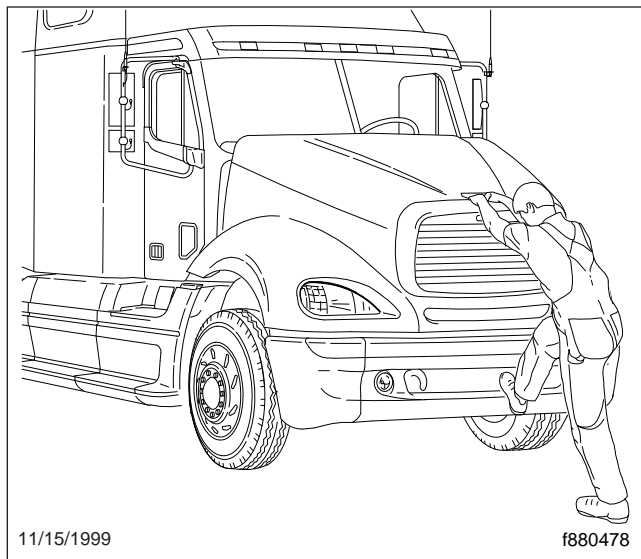

Fig. 3.7, Hood Tilting
3. Using the bumper step and grab handle, slowly tilt the hood until the straps support it. See Fig. 3.7.